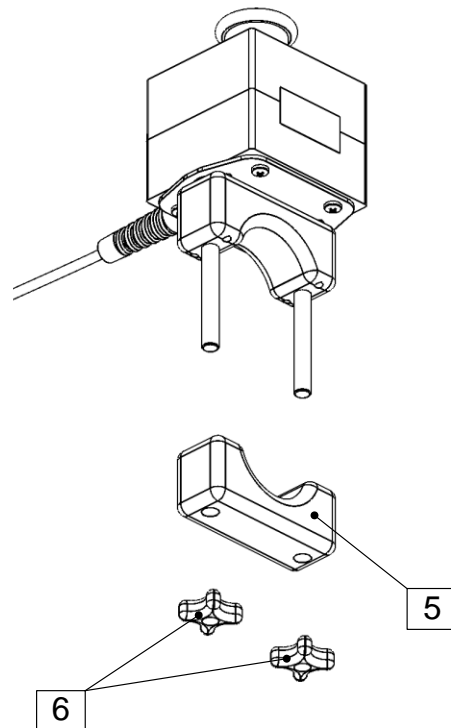

Figure 2 – Procedure for removing the bracket of the "Emergency stop" button
- Remove the lower part of the bracket for attaching the “Emergency stop” button by unscrewing the cross-shaped screw to manually secure the bracket (see Figure 2, item numbers correspond to table 3).